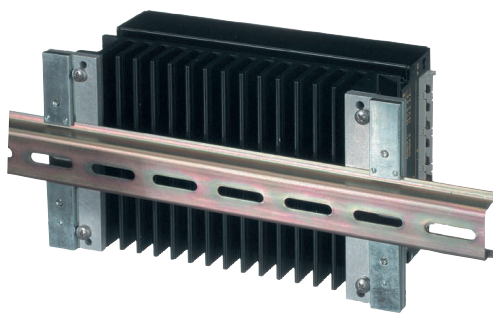

Fig. 50
- DIN-rail mounting assembly HZZ0615-G (DMB-K/S); see fig. 50